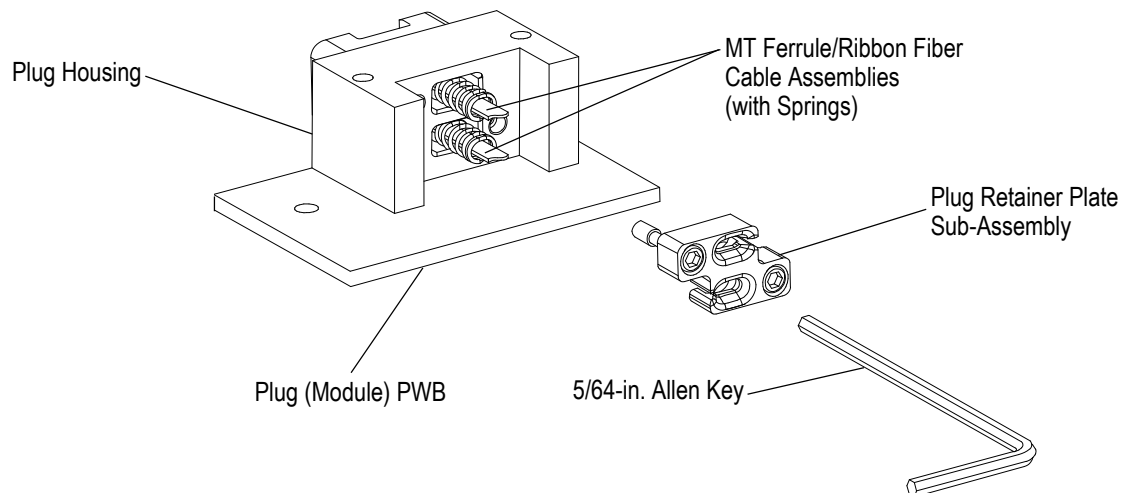

Figure 13
A. Plug (Module) Connectors (Figure 13)